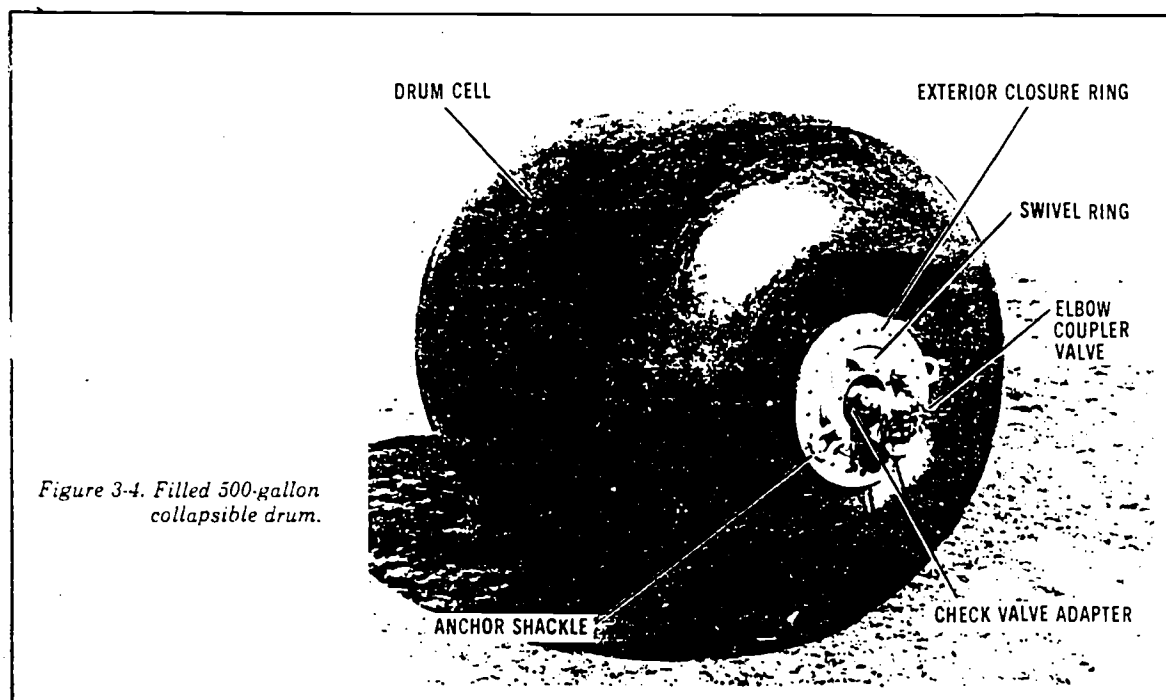

Figure 3-4. Filled 500-gallon collapsible drum.
□ **Shortie 500-gallon collapsible drum, model 5-14-191-1.** The shortie drum (fig 3-4) is similar to the long drum. Both have the same capacity. They can be towed and handled in the same way when filled and folded in the same way when empty. However, the two models differ in size. When filled, the shortie drum is about 5 feet 2 inches long and 4 feet 5 inches in diameter.